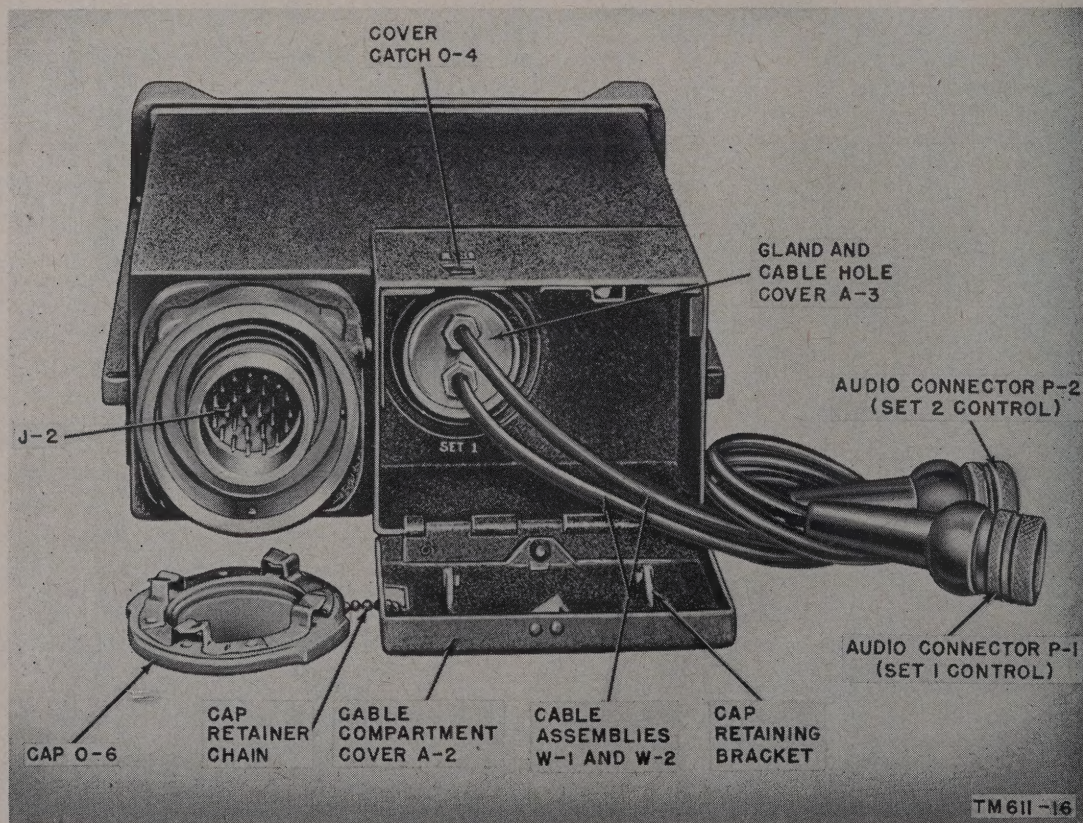

Figure 34. Local Control C-434/GRC, rear view.
a. Installation of Local Control C-434/GRC. Local Control C-434/GRC is connected underneath Mounting MT-297/GR in the place otherwise occupied by Control C-435/GRC. A second method by which the local control unit is cabled to the audio receptacles of the receiver-transmitters is used in field installations where no mounting is used (pars. 167a(8) and 169a(7)). To prepare this unit for installation, proceed as follows:
- (1) Open the cover of the cable compartment at the rear (fig. 34) and extend the two cables. Loosen the thumbscrew fasteners on the panel of Local Control C-434/